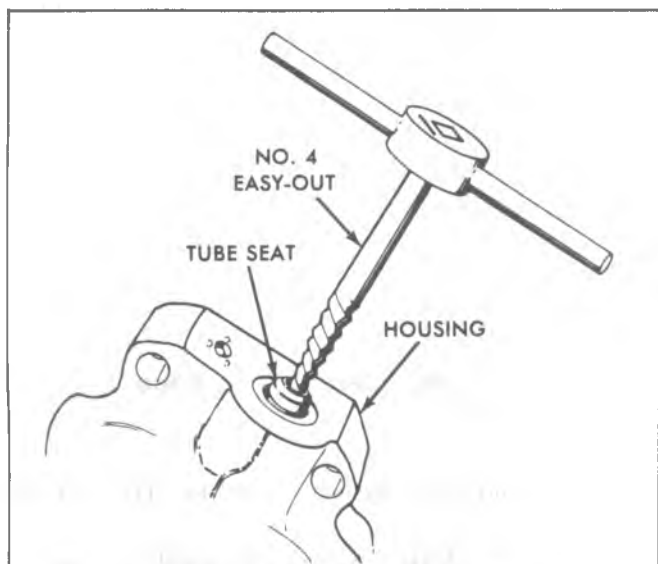

Fig. 5-54-Removing Tube Seat
4. Remove tube seat using No. 4 easy-out as shown in Figure 5-54.